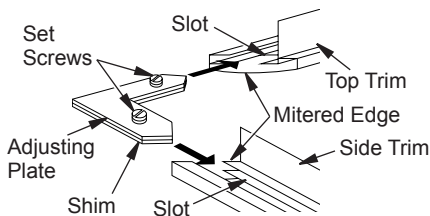

Figure 16 - Assembling Trim
3. Align shim under adjusting plate as shown in Figure 16.
4. Slide one end of adjusting plate/shim in slot on mitered edge of top trim (see Figure 16).
5. Slide other end of adjusting plate/shim in slot on mitered edge of side trim (see Figure 16).